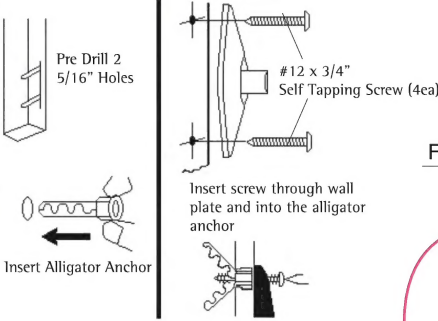

Figure 8
- 2. Drill holes in the drywall using a 5/16" drill bit (Figure 8).
- 3. Once the holes are drilled, insert the alligator anchor into the holes. Make sure the anchor is flush with the wall and/or ceiling surface (Figure 8).
- 4. With the anchors in place, mount the wall plates using the #12 x 1-3/4" self tapping screws (Figure 8).